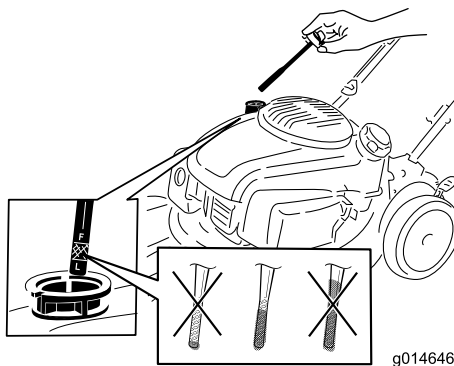

Figure 19
2. Remove the dipstick (Figure 19).
4. **Slowly** pour oil into the oil fill tube until the oil level reaches the Full line on the dipstick (Figure 19). **Do not overfill.** (Max. fill: 22 oz. (0.65 l), type: 10W-30 or SAE 30 detergent oil with an API service classification of SJ or higher.)
**Note:** Each time you check the oil level, remove the dipstick and wipe it clean, insert it into the oil filler neck (but **do not** screw it in), then remove it again and check the level (Figure 19).